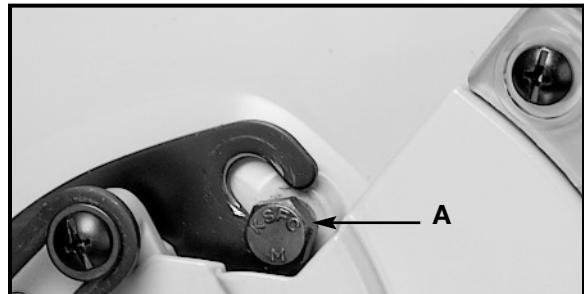

Fig. 41
3. Loosen screw (A) Fig. 41, with wrench provided.